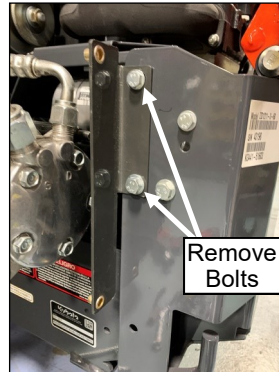

Fig. 9.1 (Install Rear Shroud Bracket)
- 9.1 Remove the two OEM bolts shown in Figure 9.1, install the rear shroud bracket, and re-install the bolts.